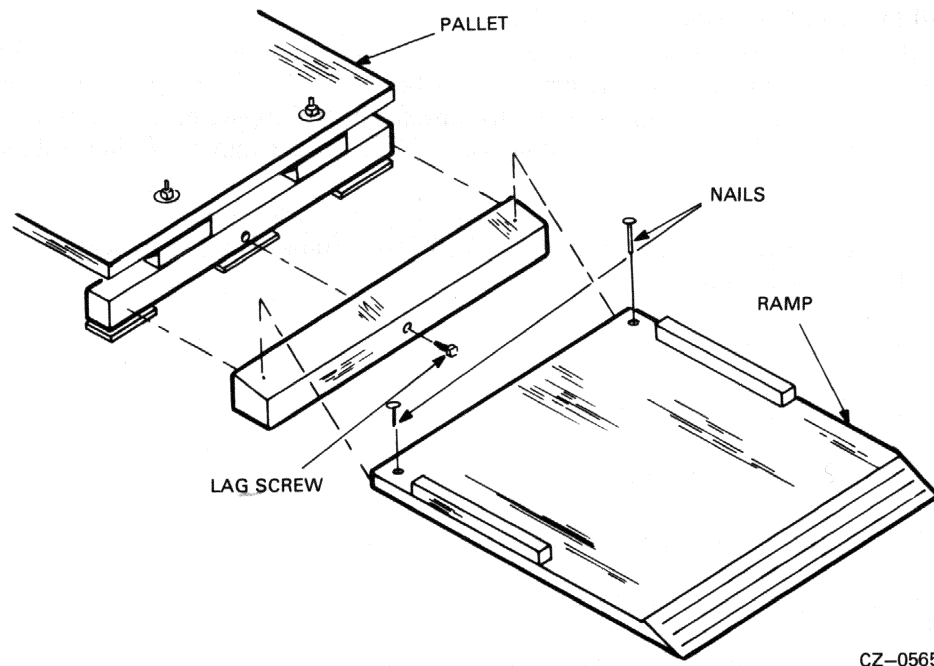

Figure 2-2 Ramp Construction
3. Build the ramp to roll the disk cabinet off the pallet. Use the lag screw and nails in the plastic bag stapled to the ramp. Figure 2-2 shows how the ramp is assembled.